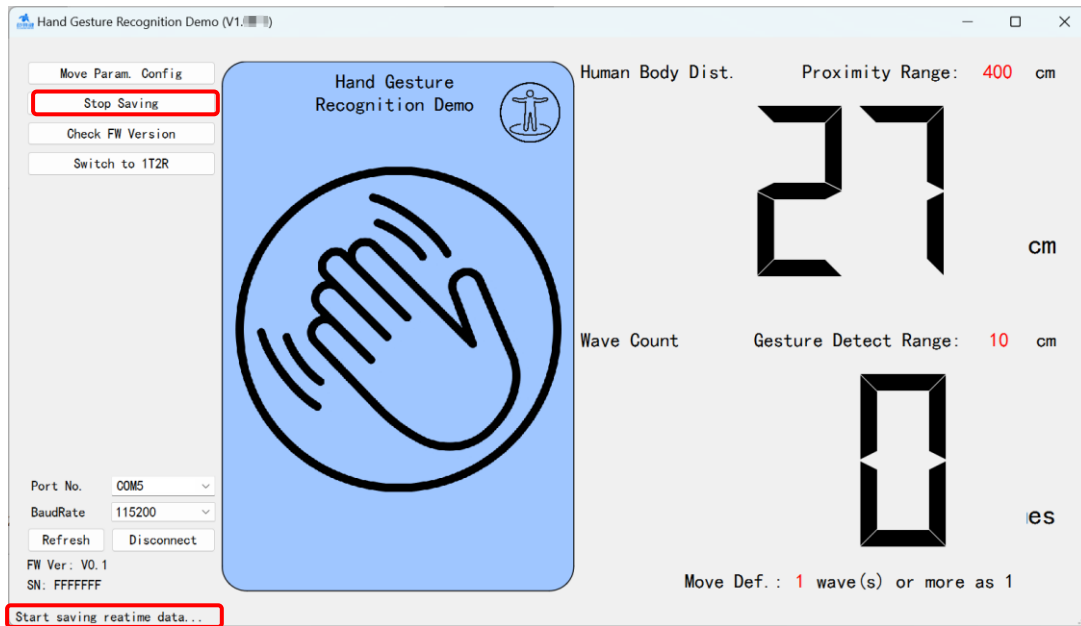

Figure 5-6 Start saving realtime data
4. The interface footer will display "Starting saving realtime data..." (see Figure 5-6)